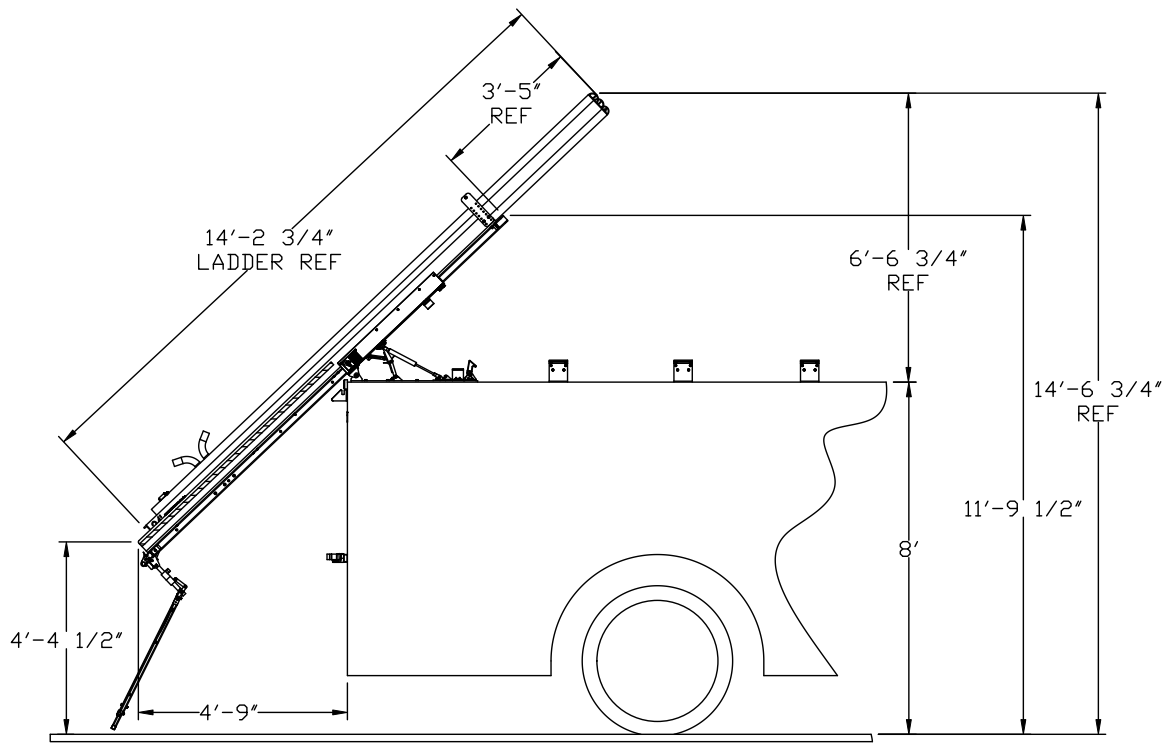

Figure 3C Dimensions - Full Deployment - 8' H Vehicle Shelf
3. When Ladder Rack has tilted to the fully-lowered position it will automatically lock into place (see Figures 3C and 3D).